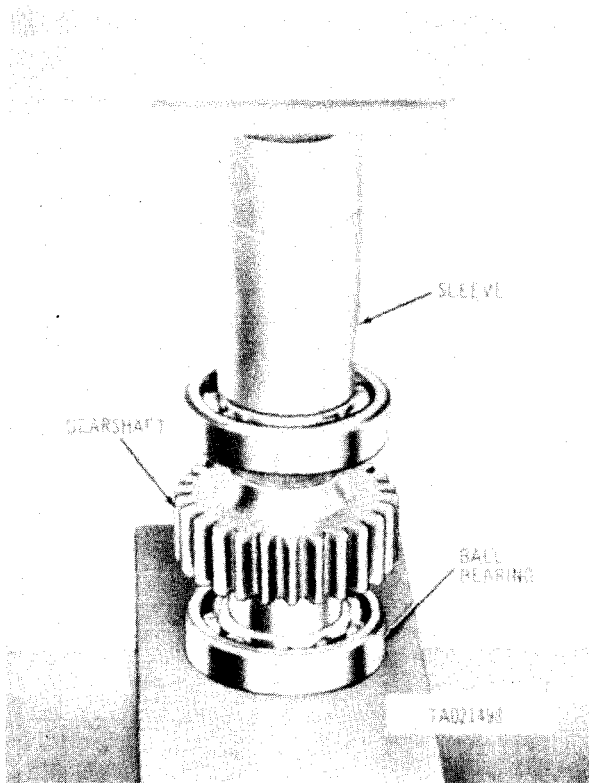

Figure 3-161. Pressing ball bearings on starter driven gearshaft. Suitable arbor press. Press gearshaft from the front ball bearing in a similar manner.
- (1) Coat ball bearing with engine oil and position bearing on bearing flange of gearshaft. Press lower ball bearing (fig. 3-161) on gearshaft using a suitable pressing sleeve on inner race of bearing. Coat upper ball bearing with engine oil and press bearing on opposite end of gearshaft in the same manner.
- (2) Coat new oil seal with engine oil. Position